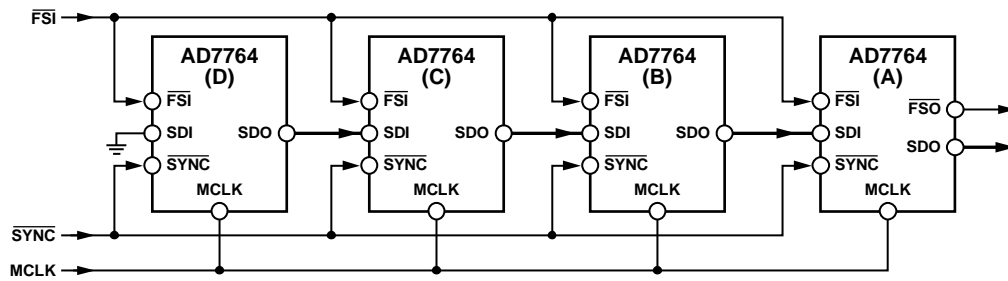

Figure 45. Daisy Chaining Four Devices in Decimate 128× Mode Using a 40 MHz MCLK Signal
The block diagram in Figure 45 shows how to connect devices to achieve daisy-chain functionality. Figure 45 shows four AD7764 devices daisy-chained together with a common MCLK signal applied. This can work in decimate 128× or decimate 256× mode only.
Referring to Figure 45, note that the SDO line of AD7764 (A) provides the output data from the chain of AD7764 converters. Also, note that for the last device in the chain, AD7764 (D), the SDI pin is connected to ground. All of the devices in the chain must use common MCLK and SYNC signals.